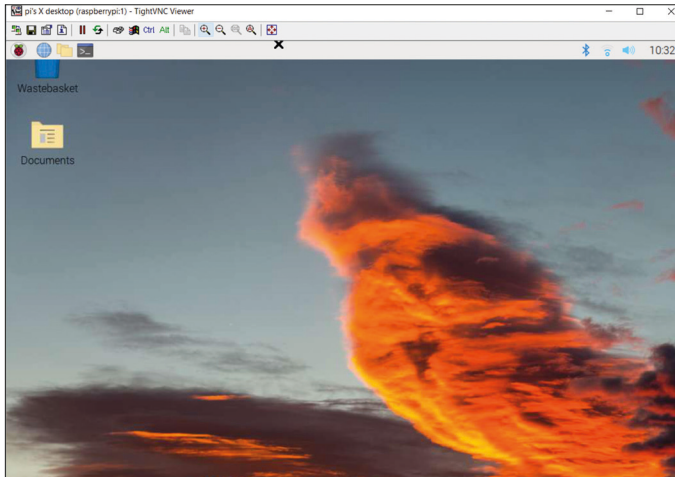

Figure 1.14: Raspberry Pi Desktop.
- Enter the password you have chosen earlier. You should now see the Raspberry Pi Desktop displayed on your PC screen (Figure 1.14).